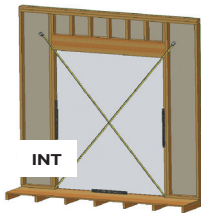

FIG. 1
- Verify the rough opening is flat, plumb, level and square. (Fig. 1)
- Take diagonal measurements to check for square. (Fig. 1)
- Make sure the bottom sill area of the rough opening is flat and level. Correct rough opening if sloped towards the interior; out of level or humped. (Fig. 1)